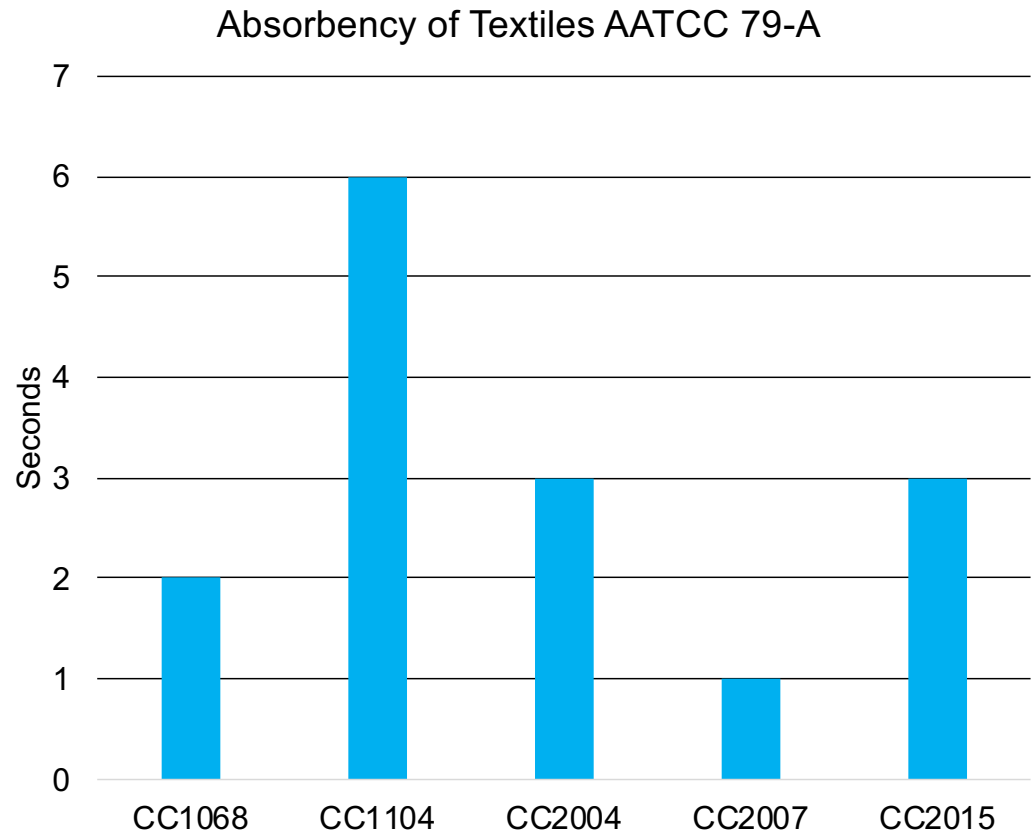

Figure 5. Graph of Absorbency of Textiles AATCC 79 of select Coolcore styles.
- Figure 5 shows that only two of five Coolcore materials exhibited a “pass” on this test.